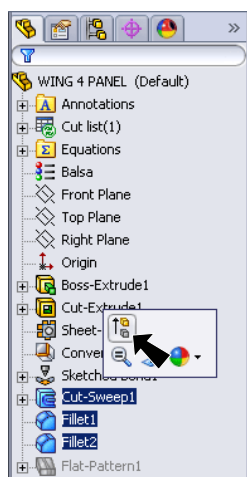

Fig. 51
Step 5. Then, **unsuppress the Cut-Sweep1 and both Fillets**. To unsuppress, **Ctrl** click the Cut-Sweep1 and both Fillets to select all three, release the **Ctrl** key and click **Unsuppress**  from menu, **Fig. 51**.